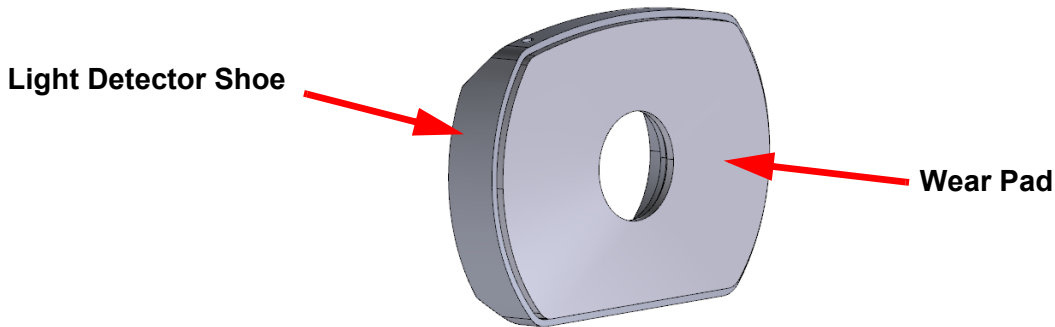

Figure 1-5. Light Test Shoe Sub-assembly
14. Set the Light Test Shoe Sub-assembly aside to send for refurbishment. Refer to Figure 1-5.